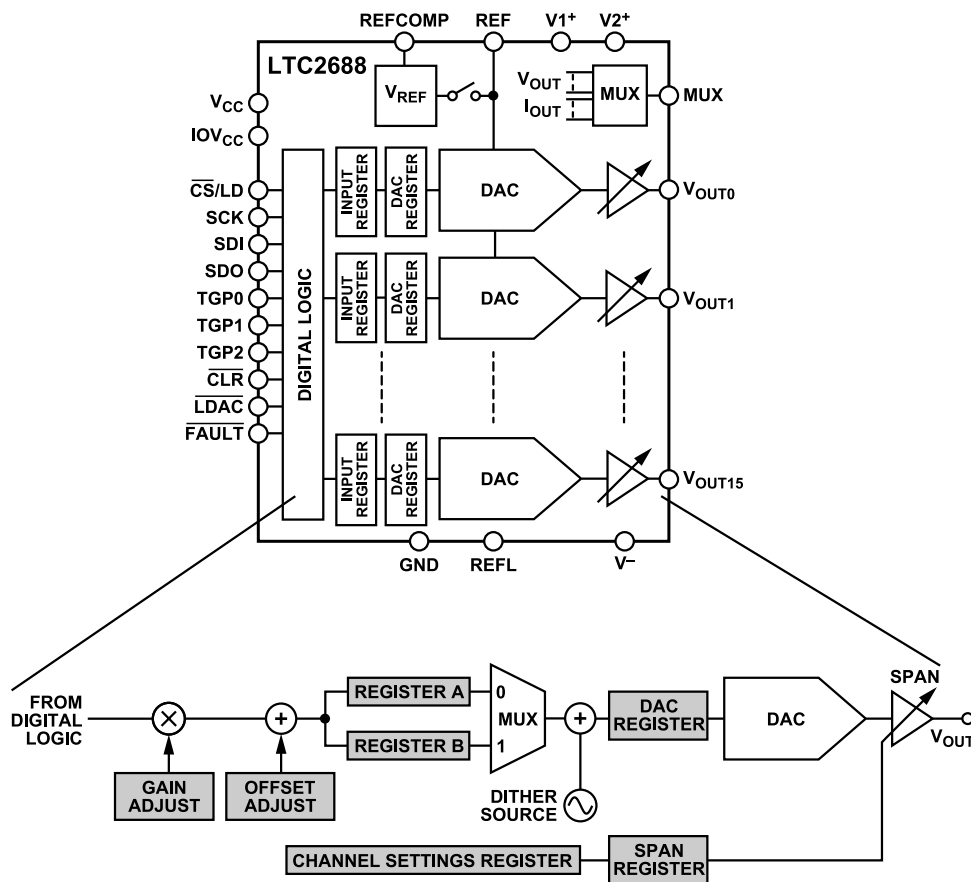

Figure 43. Block Diagram
- ▶ Input register: the write operation shifts data from the SDI pin into a chosen input register. The input registers are holding buffers. Write operations do not affect the DAC outputs directly. In the code datapath, there are two input registers, A and B, for each DAC register. Input Register B is an alternate input register used only in toggle and dither operation, whereas Input Register A is the default input register (see Figure 43).
- ▶ DAC register: the update operation copies the contents of an input register to its associated DAC register. The content of a DAC register directly controls the DAC output voltage or range. The update operation also powers up the selected DAC if it was in power-down mode. The datapath and registers are shown in Figure 43. Updates always refresh both code and span data, but the values held in the DAC registers remain unchanged unless the associated input register values have been changed via a write operation. For example, writing a new code and updating the channel updates the code, but the span is unchanged. A channel update can come from a serial update command, an LDAC negative pulse, or a toggle operation.